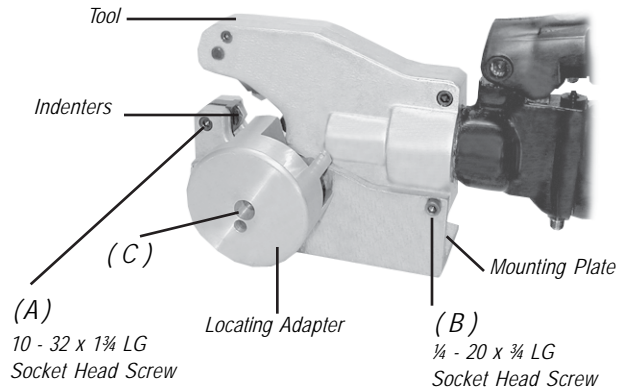

Figure 1
- 1) Remove the two screws (A & B) from the standard crimp tool. (Figure 1)
Please Note: For proper crimp location the shoulder screw (C) should be periodically checked for tightness. (Figure 1)